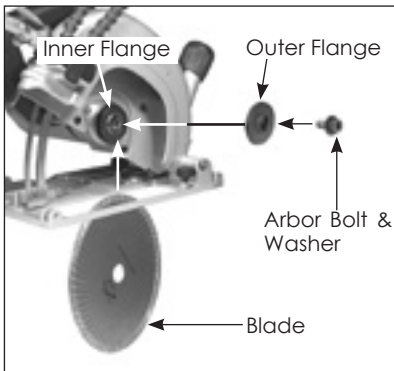

Fig.2
3. Mount the Outer Flange, Washer and Arbor Bolt. See Fig.2.